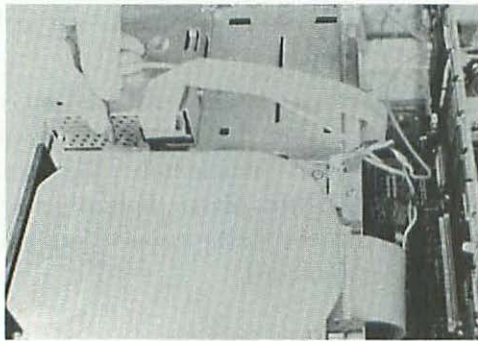

Figure 4-22 Position the thermostat wire between the disk drive and the hard drive.
17. Position the thermostat wire between the disk drive and the hard drive, as shown in Figure 4-22. Hard drives tend to run hot. This area is also directly above the single in-line memory modules (SIMMs) which also tend to run hot. Fasten the thermostat wire with tape and tie wraps.